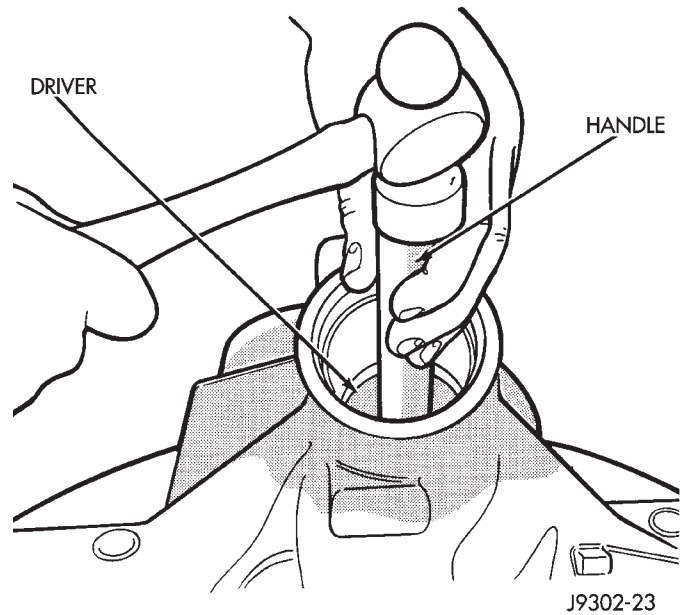

Fig. 38 Rear Bearing Cup Removal
(8) Remove the rear pinion bearing cup from axle housing (Fig. 38). Use Remover D-149 and Handle C-4171.
(9) Remove the depth shims from rear pinion bearing cup bore in axle housing. Record the thickness of the depth shims.